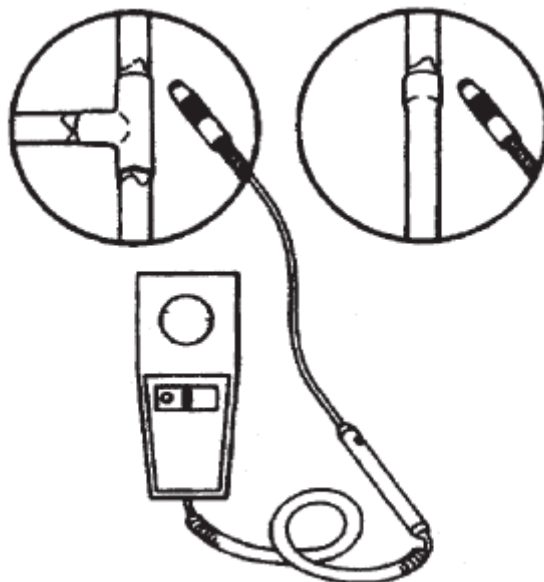

Fig. 18 Leak detector
- leak detector (ref. Fig. 18).
- 4) Verify eventual leaks with a leak detector (ref. Fig. 18) by checking all the joints and connections. If the leaks can't be found but the system lost its charge, pass to the following action.